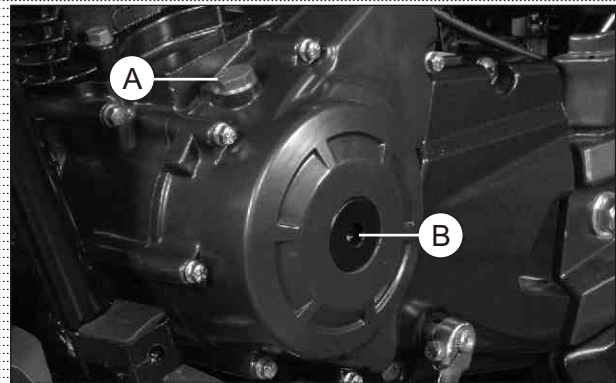

Fig. 2.47
- Remove plug TDC (A) and plug crankshaft hole (B). (Fig. 2.47)